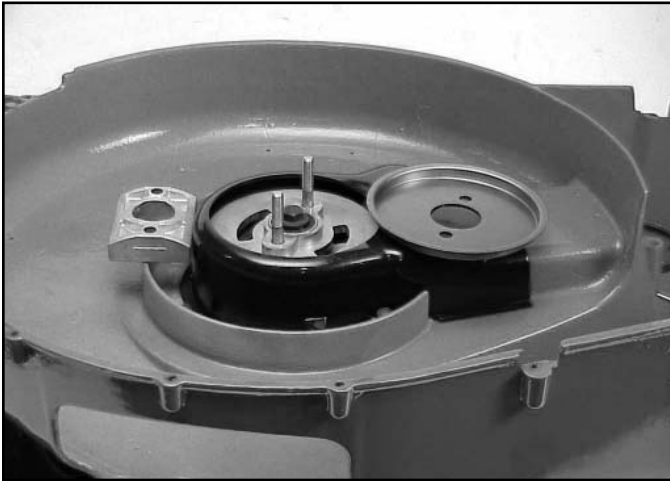

Fig 207
4. Remove the blade support and disc (Fig. 207).